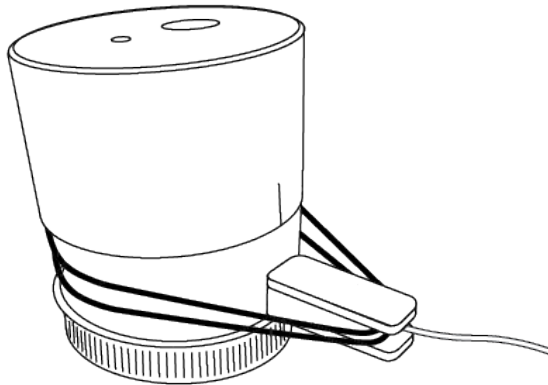

Figure 13 Align marked drilling adapter on soil sample
2. Align the marking of the drilling adapter with the middle of the sensor needle hull (Figure 13).